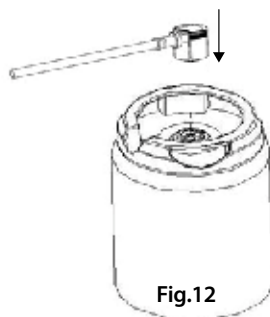

Fig.12
4. Attach the adapter and beer hose to the Heineken keg (Fig. 12).